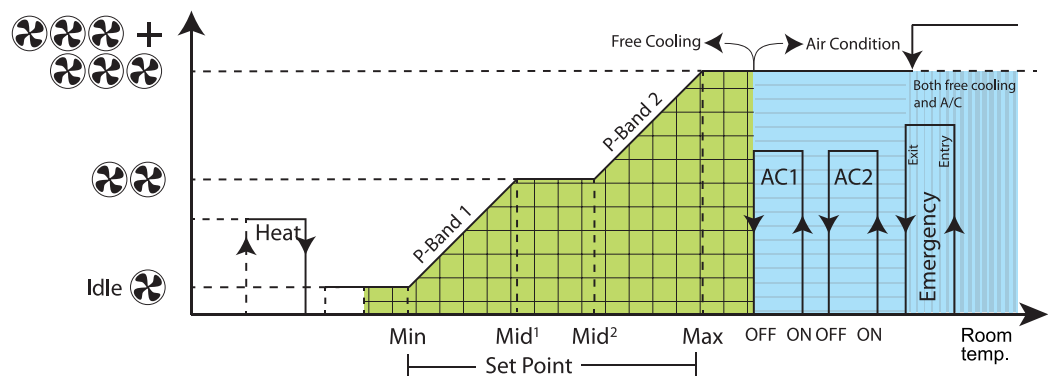

Fig. 4
- The P-band can be separated into two parts, interrupted by Mid1 and Mid2 as illustrated in Fig. 4.